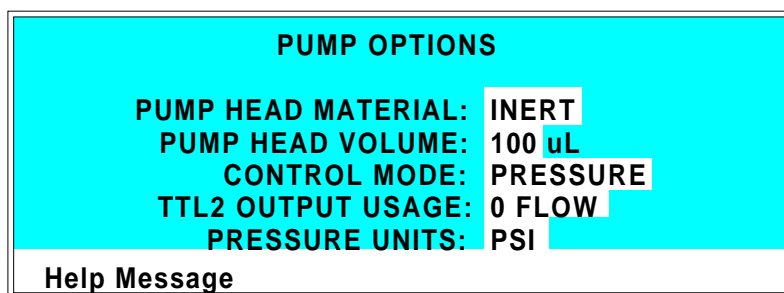

Figure D-8. Pump Options Screen
2. After replacing a pump head, it is essential to enter the new pump data into the microprocessor so that it can adjust the flow rate display and DSP Moduleware parameters. To do this, press **Menu**, and **6** to open the **PUMP OPTIONS** screen (see Figure D-8). Select the new pump head volume.